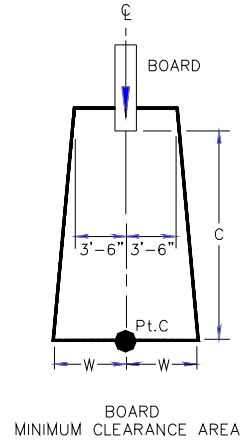

FIG. 10
- B. The minimum clearance area in front of a properly installed diving board on an inground swimming pool is a minimum distance of three feet six inches (3'-6") on either side of the board's centerline as shown in **FIG. 10**. Pt. C extends a minimum distance of "C" from the tip end of the board as shown in **FIG. 10**. The width distance "W" on either side of Pt. C is given in **CHART 1** and shown in **FIG. 10**.